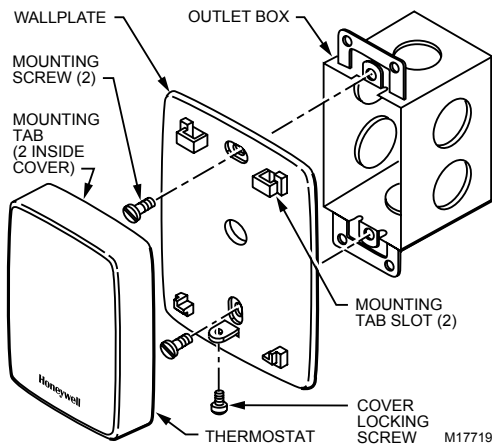

Fig. 4. Mounting the sensor on an outlet box.
5. Fasten the sensor on the wall or outlet box with screws through the wallplate mounting holes. See Fig. 4.